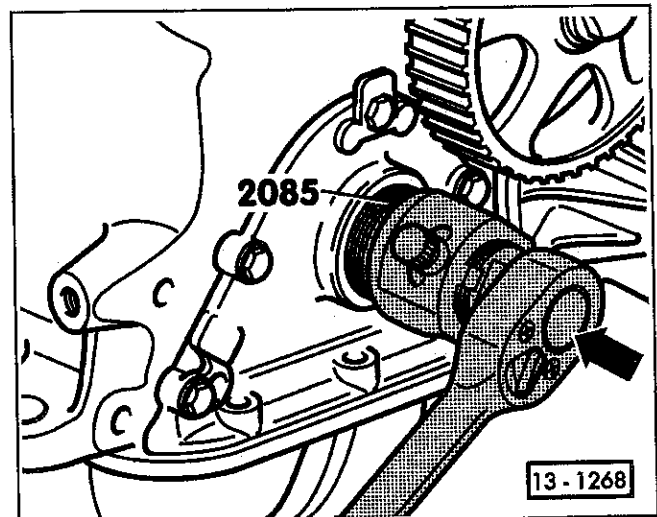

Fig. 1. Crankshaft front oil seal being removed using Volkswagen special tool no. 2085. Rotate tool clockwise to remove seal.
3. Remove the seal from the its carrier using a seal extractor, or carefully pry it from its housing using a screwdriver. See Fig. 1.